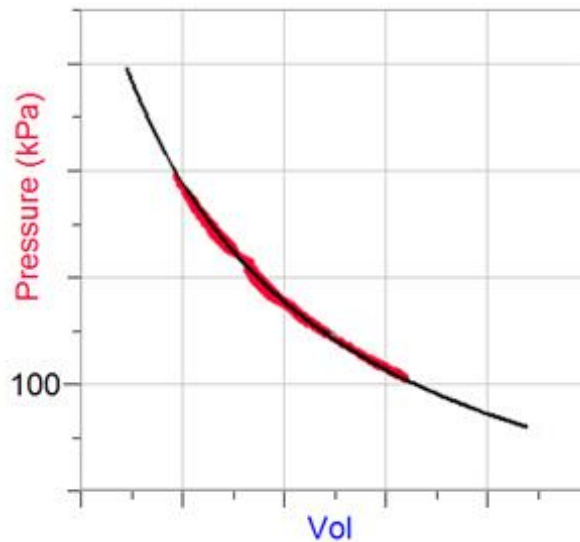

Fig 1 - A slow compression/expansion cycle begins at one atmosphere pressure.
- In your experience: how slowly must the piston be moved to plot the graph in figure 1?